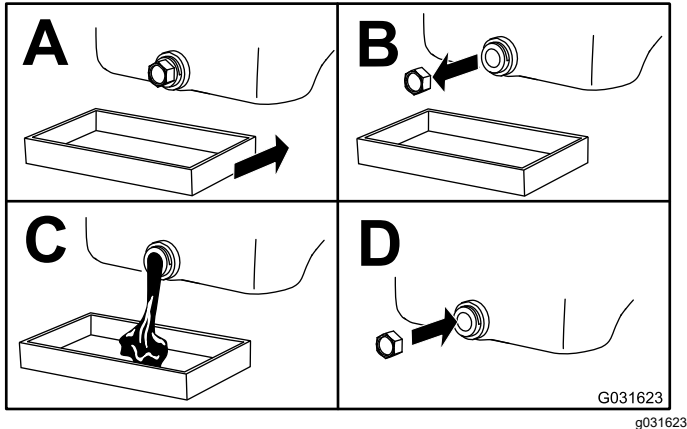

Figure 43
4. Change the engine oil as shown in Figure 43.